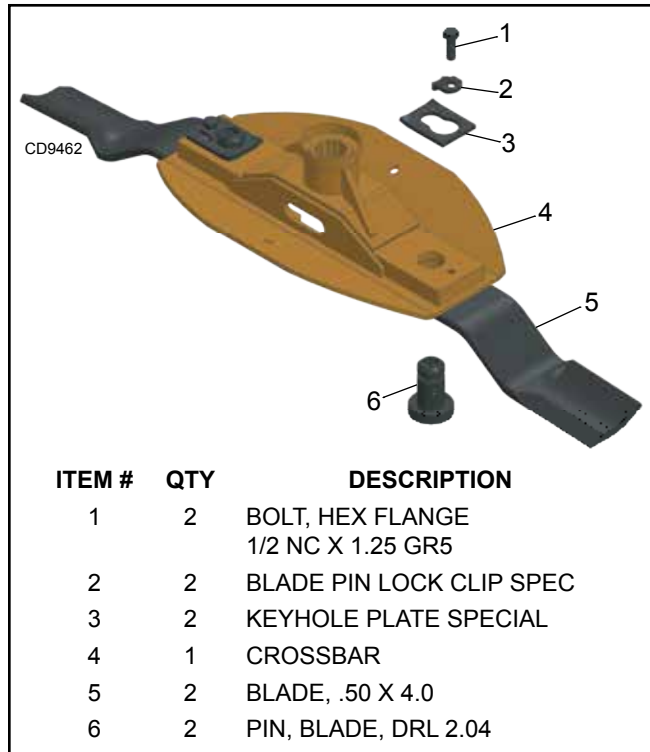

Figure 14. Blade Removal
2. Blade removal is not required when removing crossbar. If desired, the blades can be removed as shown in Figure 14.